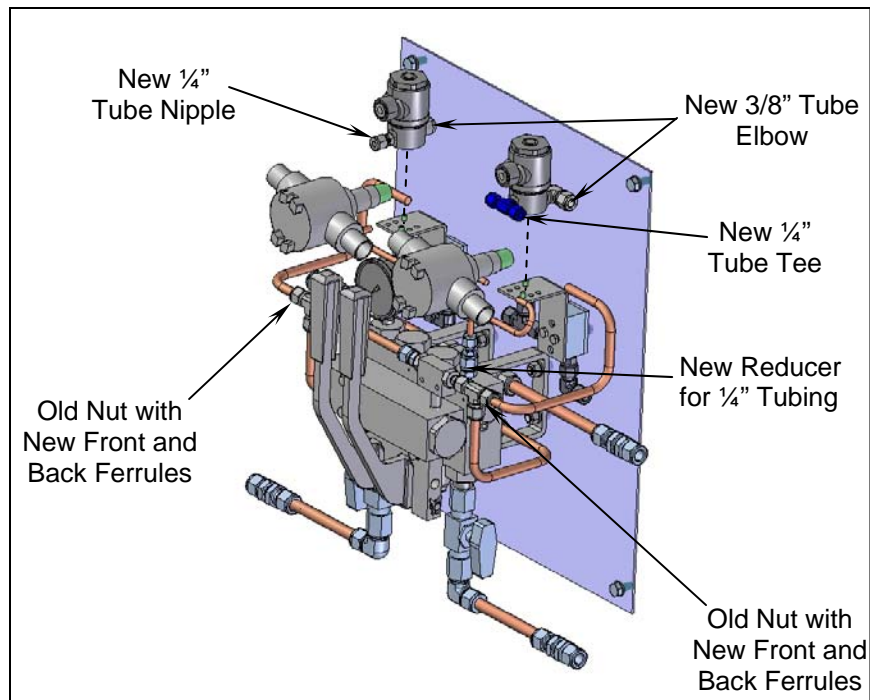

Figure 3: Install new Tube Fittings
1. Install Tube Fittings in New Valves as shown in Figure 3 below.
2. Mount the new solenoid valves utilizing the brackets, as shown in Figure 3 below.